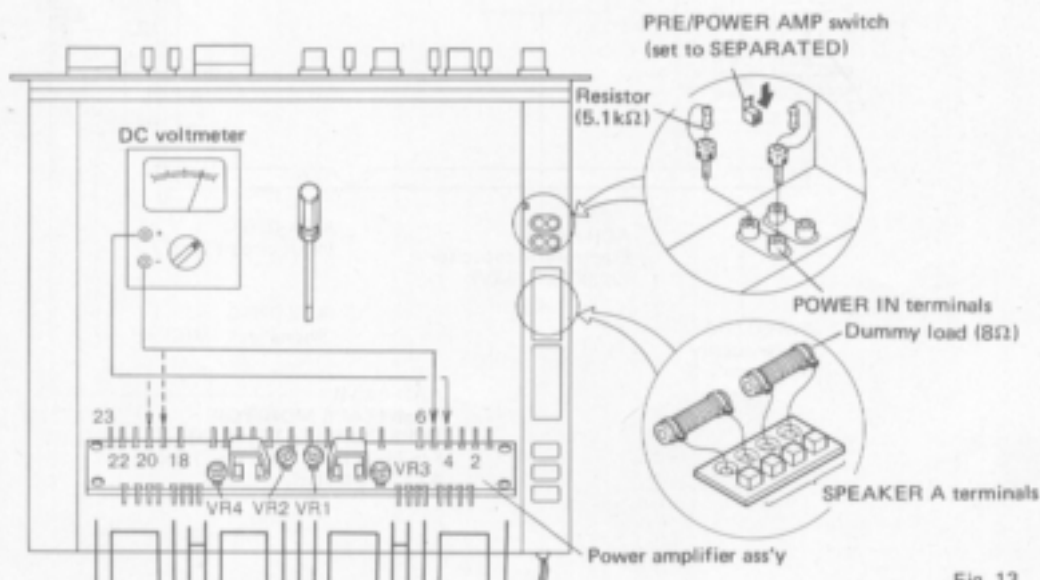

Fig. 13
- Fit  $5.1\text{k}\Omega$  resistors to the POWER IN terminals as shown in Fig. 13.
- Connect  $8\Omega$  dummy loads between the SPEAKER A terminals as shown in Fig. 13.